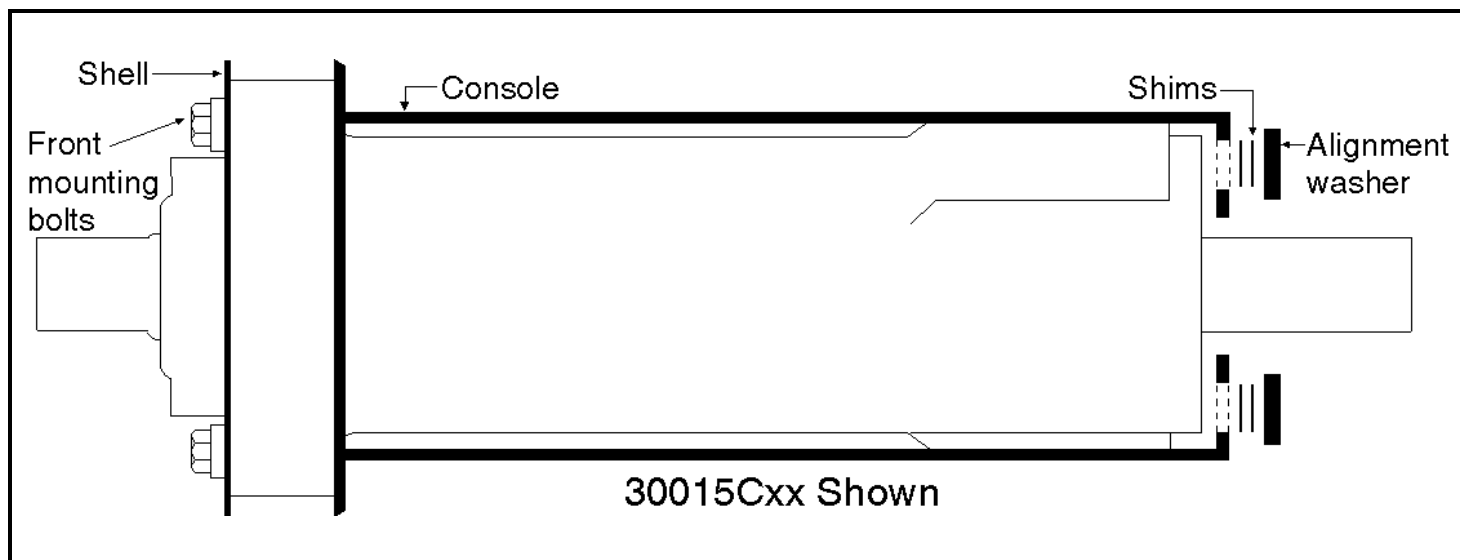

FIGURE 2 (MSSM0708BE)
NOTE 1: Shims (shown in FIGURE 2) are factory installed between the bearing housing and the alignment washers. **These shims must be removed and replaced in their exact original positions.**
8. Install the front bearing mounting bolts through the ring and bearing housing, and tighten front bolts. Install new alignment washers and original shims on rear mounting bolts (FIGURE 2). **Replace the shims on rear mounting bolts exactly as removed.**